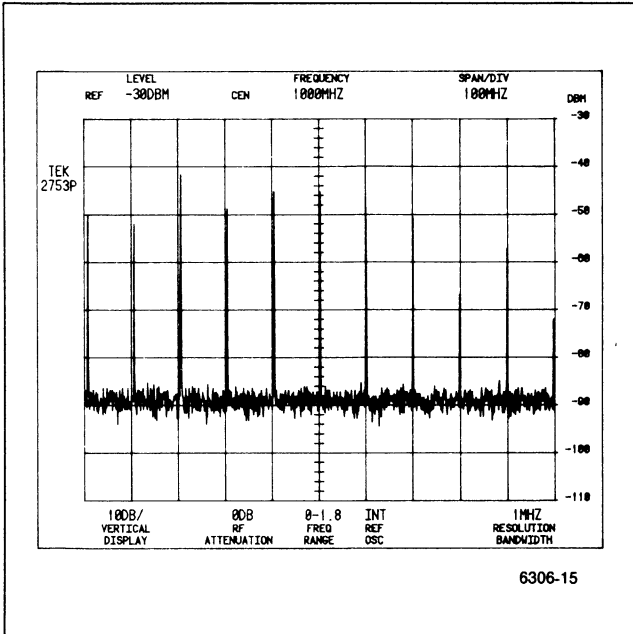

Figure 4-5. Typical marker display for measuring Span/Div accuracy.
b. Apply the CAL OUT signal to the RF INPUT and set the CENTER FREQUENCY to align the 100 MHz markers so the 100 MHz/div accuracy can be measured over the center eight divisions of the display. It may be necessary to change the REF LEVEL to obtain adequate marker amplitude. Maximum deviation (see Figure 4-5) must not exceed 5 MHz/div.